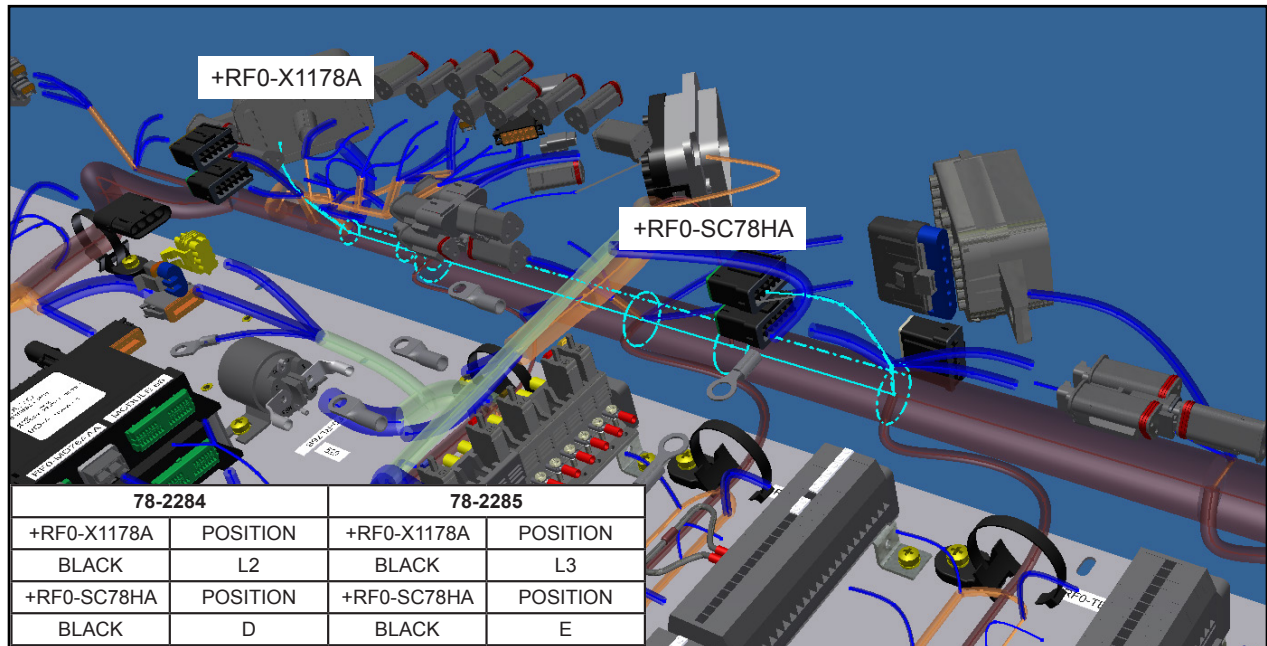

Figure 12 - Connectors and Terminals Positions
1.21. Inside the +RF0 panel, connect the wires 78-2284 to +RF0-X1178A and 78-2285 to +RF0-SC78HA (see Figure 12).